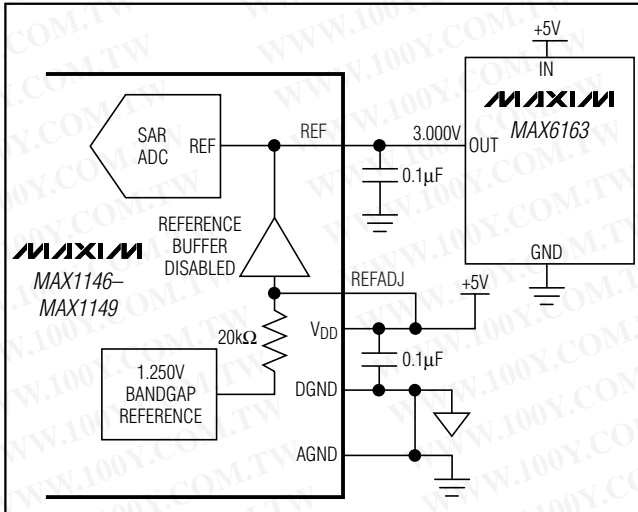

Figure 12. External Reference Applied to REF
- 1) Disable the internal reference buffer by connecting REFADJ to  $V_{\text{DD}}$  and apply the external reference to REF (Figure 12).